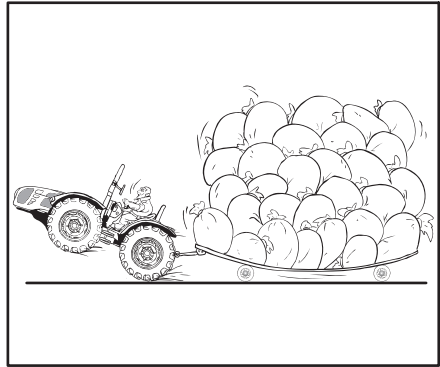

Fig. 2.15
- Do NOT overload and do NOT ballast beyond the load capacity of your tractor. Never add ballasts to compensate for overloading. Reduce the load (Fig. 2.15).